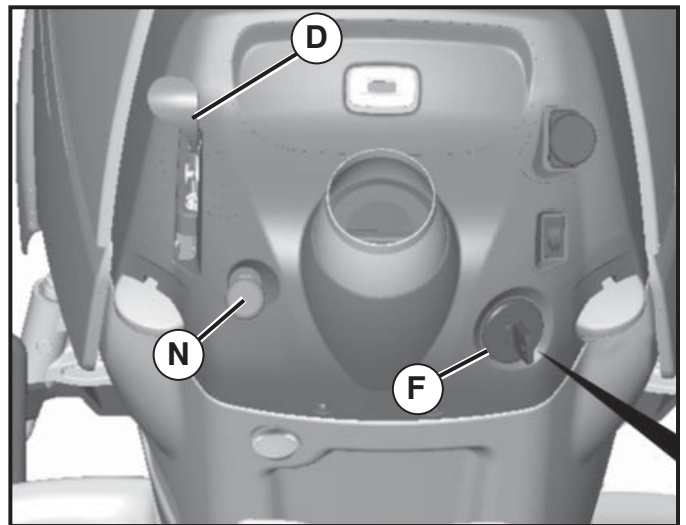

FIG. 16
TO USE THROTTLE CONTROL (See Fig. 16)
TO USE CHOKE CONTROL (D) (See Fig. 16)